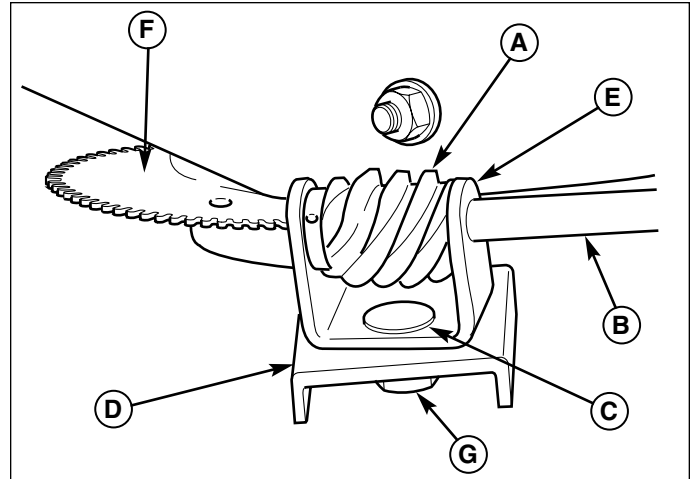

Figure 20. Discharge Control
2. To adjust, loosen nut (D, Figure 20) by holding the adjusting flats (A) and turning nut (D). Turn adjustment flats and hold screw. The adjustment screw is a phillips screw and the head can be held or turned by inserting a screwdriver through the spring.
3. Hold adjusting flats (A) and tighten nut (D).
If the discharge chute is difficult to operate, first lubricate the pinion gear (A, Figure 20) and ring gear (F). If it is still difficult to operate, adjust as follows:
1. Loosen the nut (G, Figure 20) which holds the pinion gear bracket in the slotted hole.